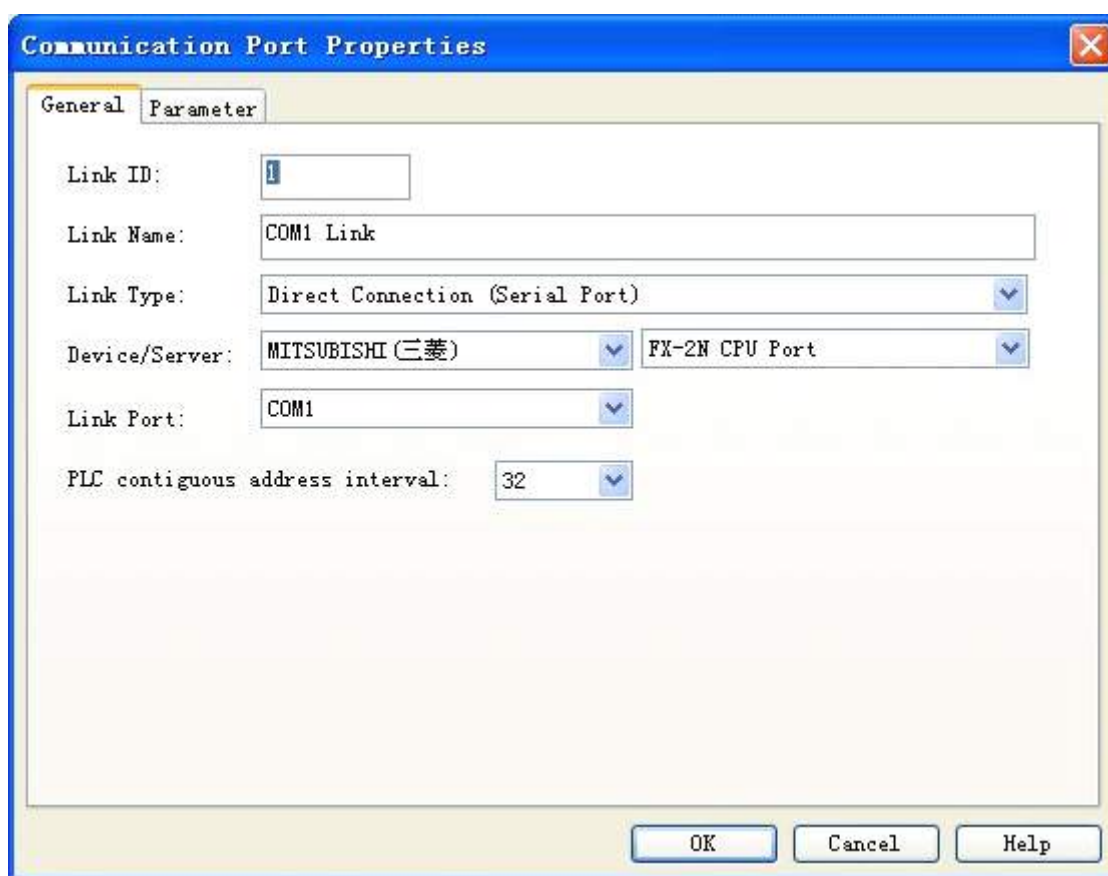

Figure 7-1 Dialog box for setting of COM1 communicate screen
- ◆ Double click “COM1 Connection” of “Project Manager” to pop up a dialog box as shown in figure 7-1.